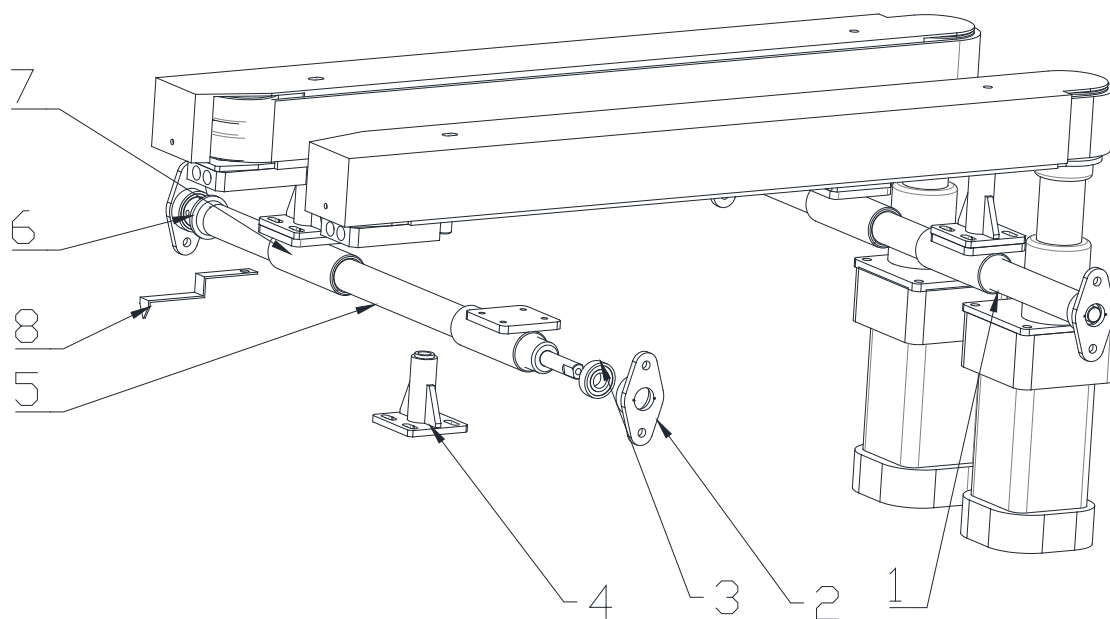

Figure 12
6.4 Driving belt (See Figures 12 & 13):	- 18 -
6.4 Driving belt (See Figures 12 & 13):